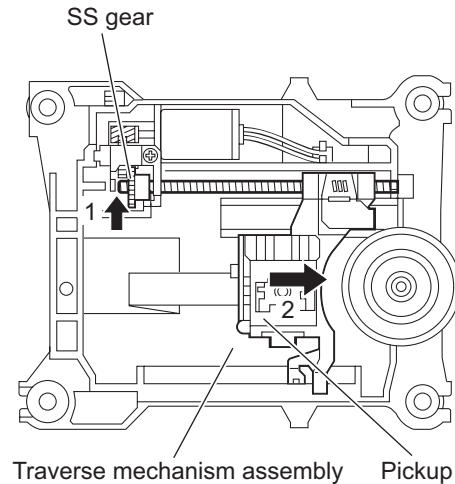

Fig.10
- (6) Turn the SS gear in the direction of the arrow 1 to move the CD pickup in the direction of the arrow 2. (See Fig.10)